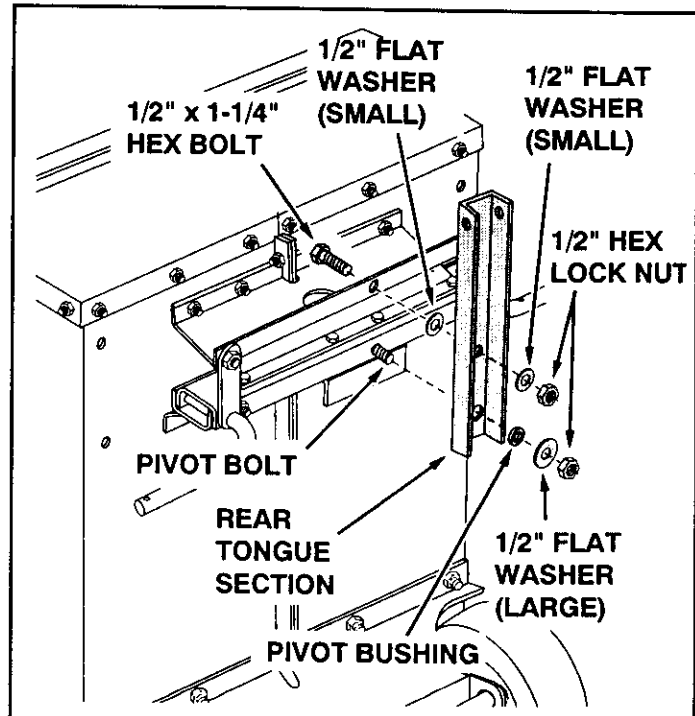

FIGURE 12
- Remove the 1/2" hex lock nut from the center pivot bolt. Assemble the rear tongue section, the pivot bushing, the large 1/2" flat washer and the 1/2" hex lock nut onto the pivot bolt as shown in figure 12. (The pivot bushing fits into the hole in the tongue.) **Tighten.**
- Fasten the tongue to the tie rod as shown in figure 12, using a 1/2" x 1-1/4" hex bolt, two small 1/2" flat washers and a 1/2" hex lock nut. **Tighten**, leaving loose enough that the tongue can pivot.